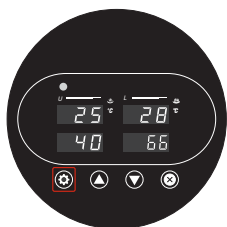

Fig. 3
3. Press Set **10** button on the control panel (Fig. 3) to go to the temperature setting mode for the bottom heat platen.